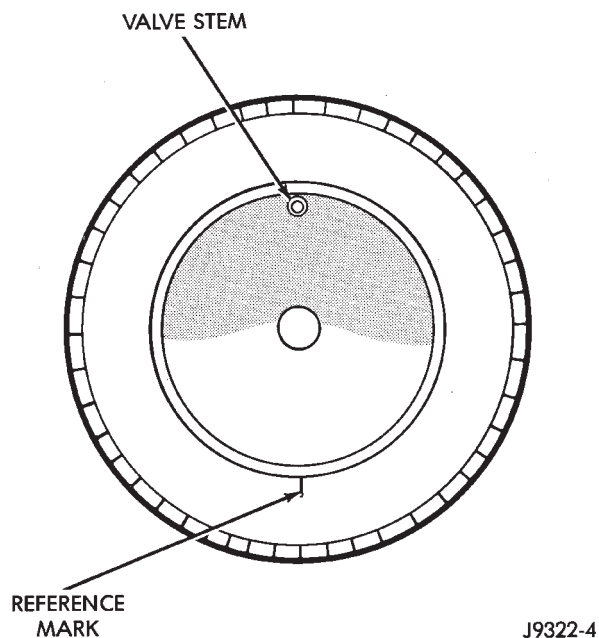

Fig. 6 Remount Tire 180 Degrees
(2) Break down the tire and remount it 180 degrees on the rim (Fig. 6).